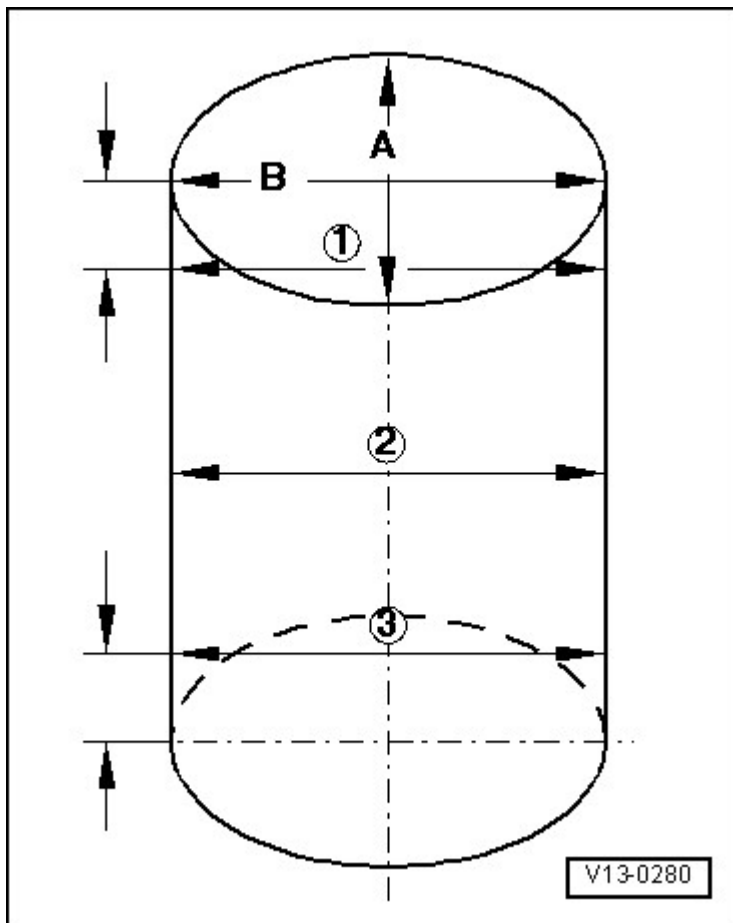

Fig. 18: Checking Cylinder Bores
- Measuring cylinder bore, refer to **Fig. 18**